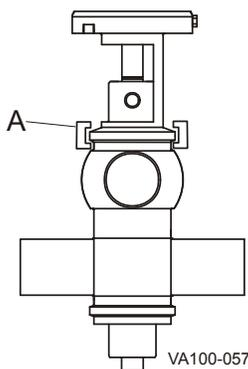

Figure 22 - Location of Adapter Clamp
4. Remove the clamp between the yoke and the adapter (Figure 22, item A).
10. Re-fasten the clamp between the yoke and the adapter (Figure 22, item A), then remove the air pressure to cycle the valve closed.